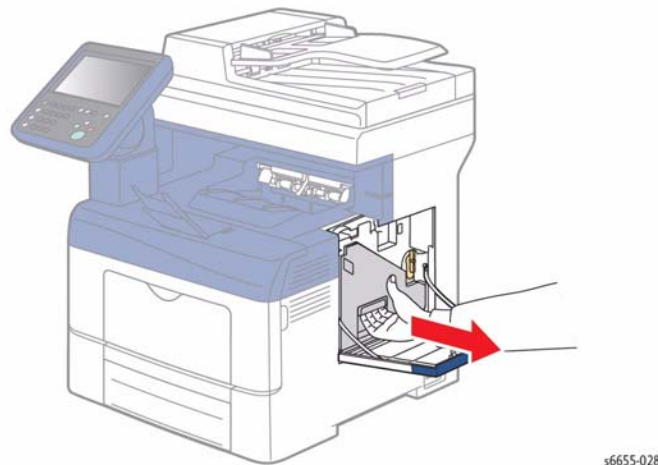
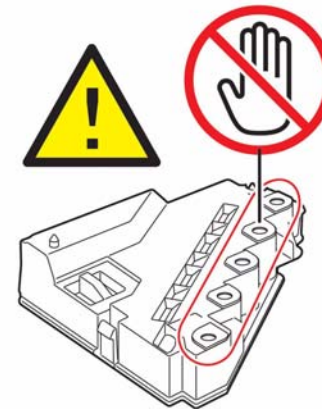

Figure 3 Remove the Waste Cartridge
Figure 4 Keep Waste Cartridge Openings Facing Up
3. Grasp the handle of the waste cartridge, then pull it out, Figure 3. To prevent toner spills, keep the openings facing up, Figure 4.
- After removing the waste cartridge, do not touch the area shown in Figure 4.